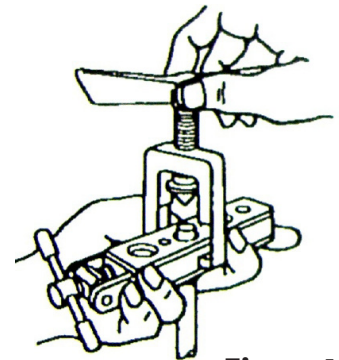

Figure4
8. Position the yoke over the top of the die holder and twist clockwise to lock in position. The yoke should be positioned directly over the top of the tube. See (Figure4).